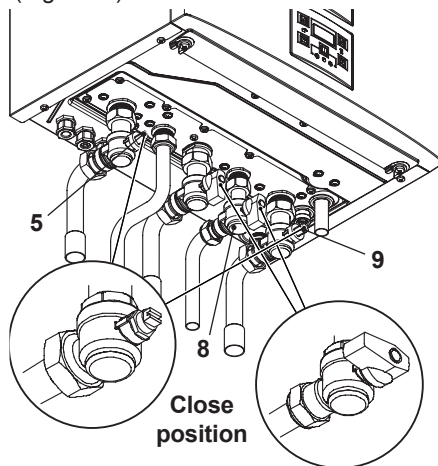

Fig. 10.5
- Turn off the D.C.W. inlet isolating valve 8 (Fig. 10.5).
- Close the C.H. isolating valves (5 and 9 in Fig. 10.5).